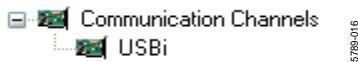

Figure 14. Adding the USBi Communication Channel
- a. Click **USBi** to add a **USBi** component from the **Communication Channels** subsection of the toolbox (see Figure 14).